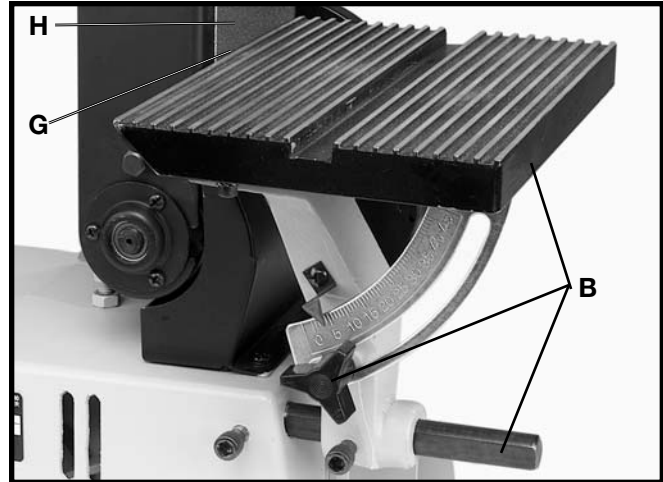

Fig. 37
4. Fig. 37, illustrates the table assembly (B) assembled to the belt unit.